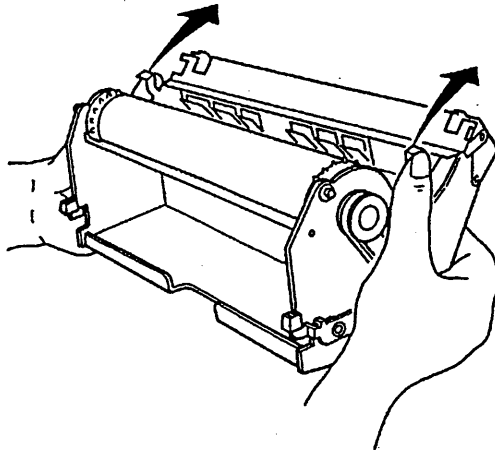

Figure 6.1.3
- 4) Lift the knobs on the left and right sides of the chart pressure plate at the rear of the chart cassette, and slide the plate back (see Figure 6.1.3).